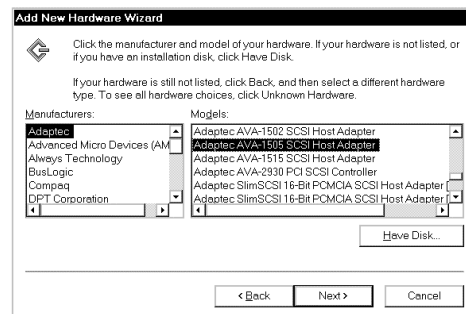

Figure 5, Select AVA-1505 Card
7. Select Adaptec AVA-1505 SCSI Host Adapter. (Figure 5)